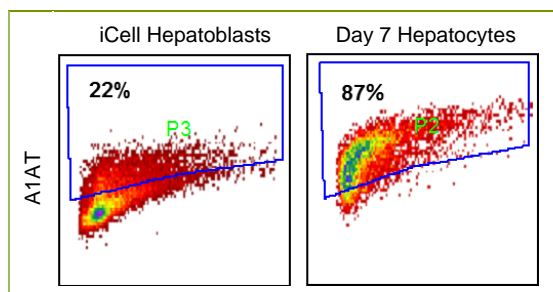

Figure 1: Flow Cytometry Analysis of A1AT Expression in Hepatocytes Differentiated from iCell Hepatoblasts
2. Use the live/dead signal and A1AT signal to evaluate hepatoblast differentiation into hepatocytes (Figure 1).